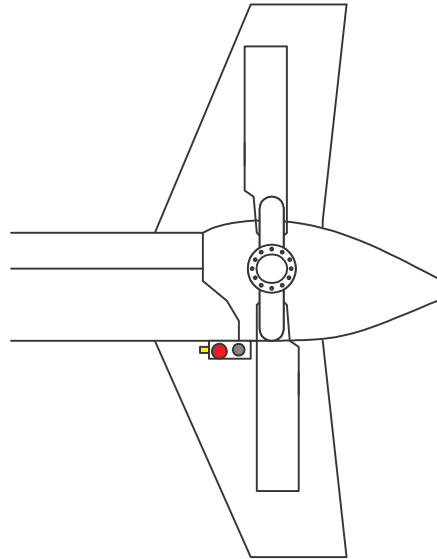

Figure 1
2. Install the Phototach/Sensor Mount (Item 8) under the tail boom at the 6:00 position. (Figure 1) Install Phototach (Item 3) into Mount and secure with nut. Install the 991D-1 Sensor (Item 5) into Mount. Ensure that Sensor connector faces the tail rotor.